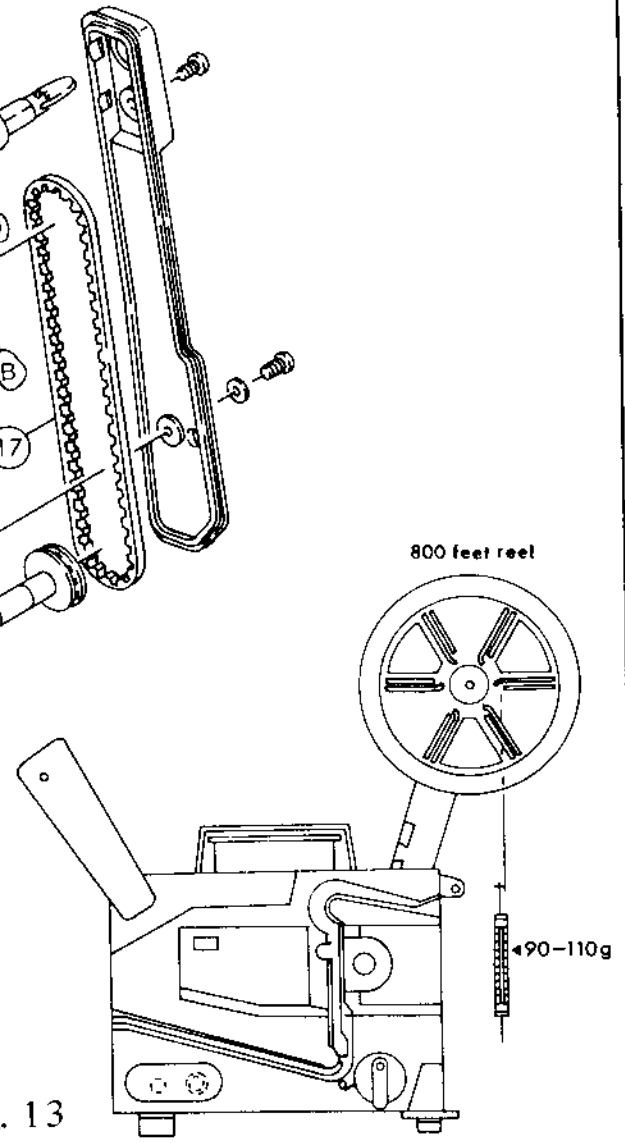

Fig. 13
2. Remove ⑰ to make sure that ⑳ has no irregular rotation. In the case of irregular rotation, replace the bearings of ⑱ and ⑳. Confirm ⑬ also in the same manner.
3. Replace ④ and ⑱ for wear, since ④ enters the cut-groove of ⑱ to fix ⑤ at projecting position.
4. Adjust the tension of ⑰ at fixing position of ⑱ if the film slackens down when the projector is stopped during projection. The spring ⑩ also prevents the slackening of film.
5. Braking measurement of ⑬
- Method: — Refer to Fig. 13, and wind the film some 5 - 6 turns around the reel, with the knob turned to OFF, and pull in the direction of arrow mark by using the spring beam (C 067).
- Adjusting method: — Tension of ⑰ (Adjust the fixing position of ⑱.)